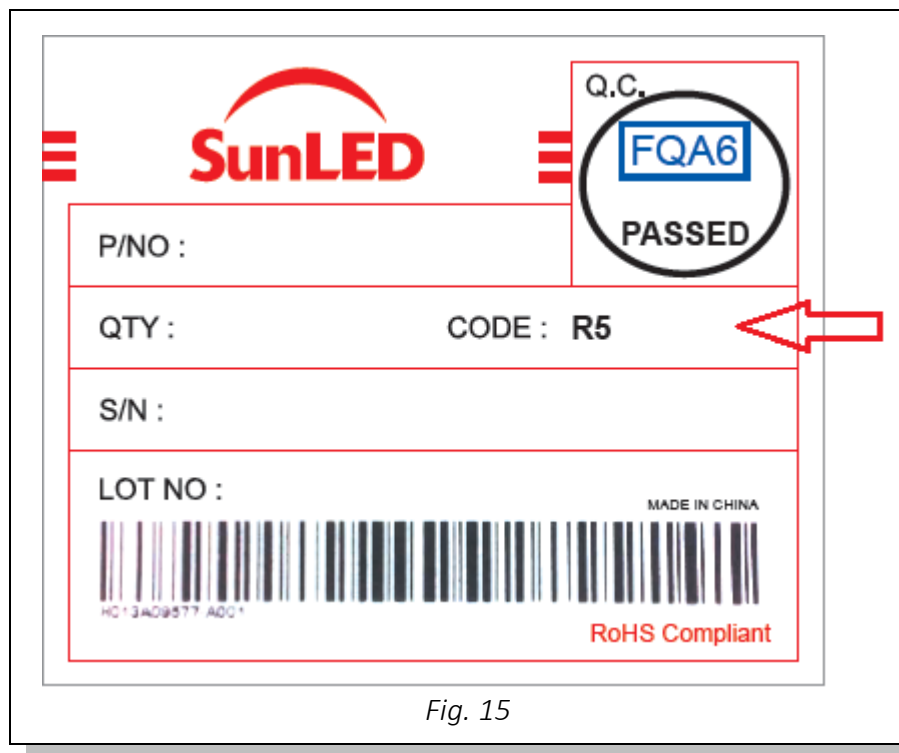

Fig. 15
4. SunLED products are bin sorted for intensity and wavelength. To ensure intensity and color consistency when using multiple LEDs in an array, it is recommended to use parts within the same bin code. Each bag, reel, or tube of LEDs contain a single intensity and wavelength code and is indicated on the part number label. Refer to below diagram (*Fig. 15*) for bin code identification and reference above section (*I. Bin Codes*) for specification data.